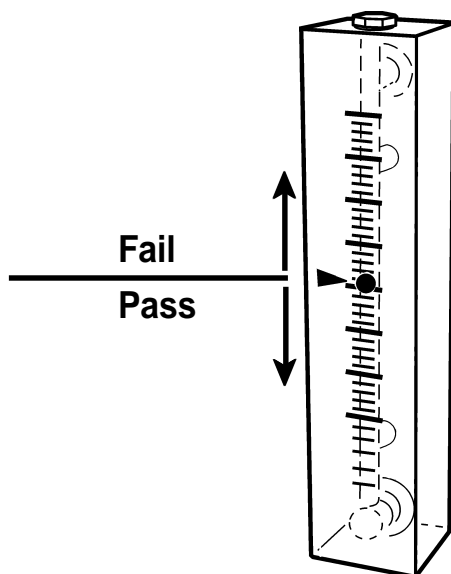

Figure 7
12. Once the flow meter's ball stops descending, observe if the ball is above or below the red flag. See Figure 7.